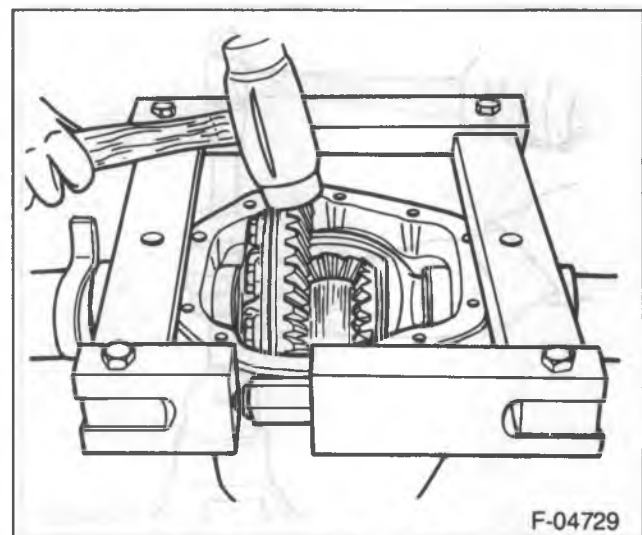

Figure 39—Installing the Differential Case
16. Place the bearing cups (20) onto the bearings.
- Use a rawhide hammer to seat the differential assembly in the axle housing (figure 39).
19. Install the bearing caps (18) in their original positions.
20. Install the bearing cap bolts (19).